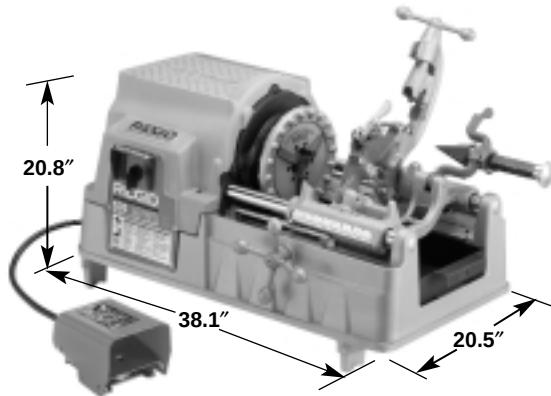

Figure 2 – No. 535 Machine Dimensions
1. If a stand is not used, the machine should be mounted to a stable bench. To mount the unit on a bench, use four (4) $\frac{5}{16}$ " bolts in holes provided at each corner of machine base. Base dimensions are shown in *Figure 2*.